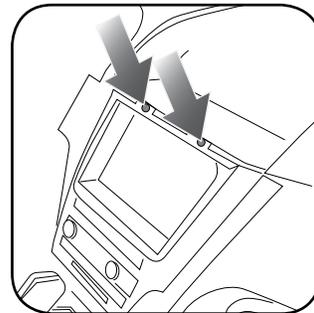

Fig. 1.3
3. Remove (2) 7mm screws securing the top of the radio bezel. (fig. 1.3)